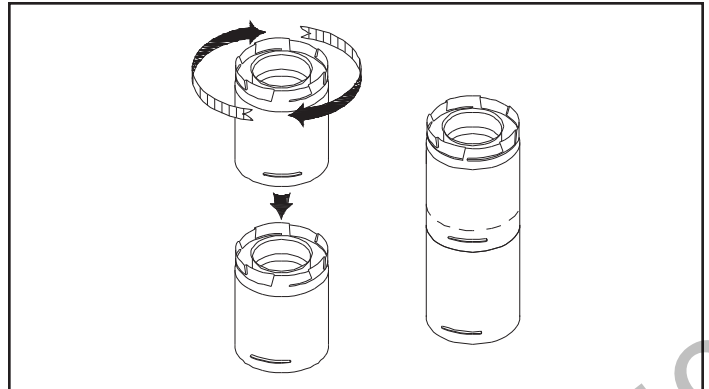

Figure 23
- Twist-lock procedure: Line up locking lugs on male and female ends of pipe sections. Insert the male end of pipe into the female end until the locking lugs are covered. Twist the female end clockwise an eighth of a turn to lock sections together, Figure 23. Screws are not required to secure the joint, but are acceptable provided they do not penetrate the inner wall of the vent pipe.